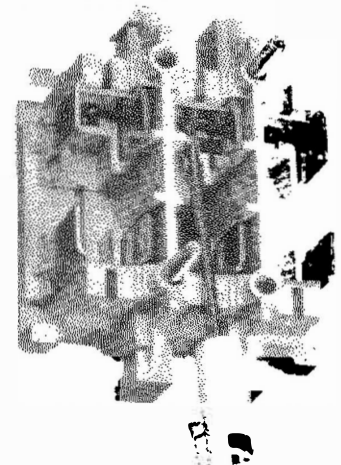

Figure 4
3. **Arc Chutes** - Remove arc chutes from contactor by placing a screwdriver in the small hole of the arc chute and prying up (Fig. 4).